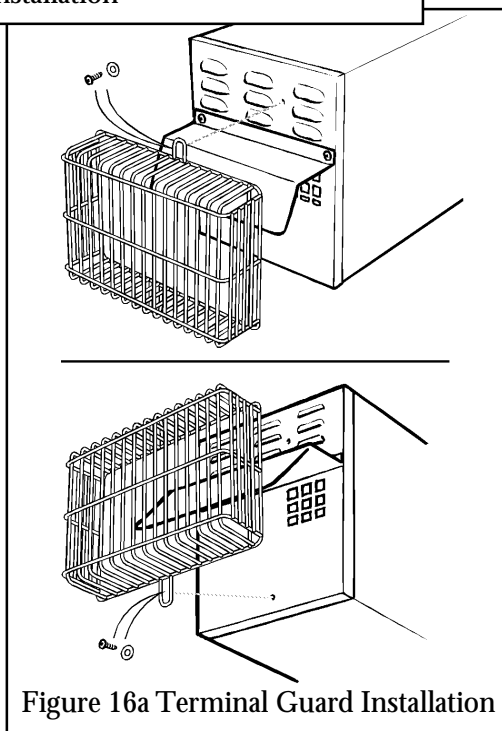

Figure 16a Terminal Guard Installation
10.1.4 Fit the terminal guard. Secure the guard at the bottom with the screw and washer previously removed. Secure the guard at the top between the two right hand columns of louvres using the screw and washer supplied in the pack. see figure 16a.